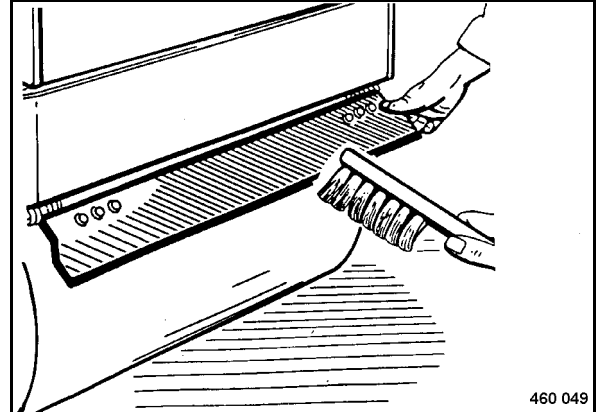

Fig. 65
- Fold the scrapers up and clean them (Fig. 65). This is of particular importance before compacting asphalt surfaces.